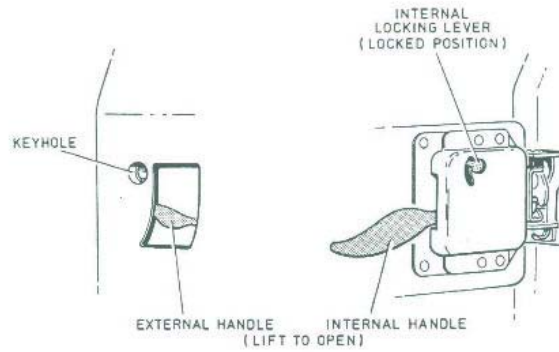

Fig.1-3 Forward door handles and locks
4. Door handles and locks (Figs. 1-3 and 1-4)